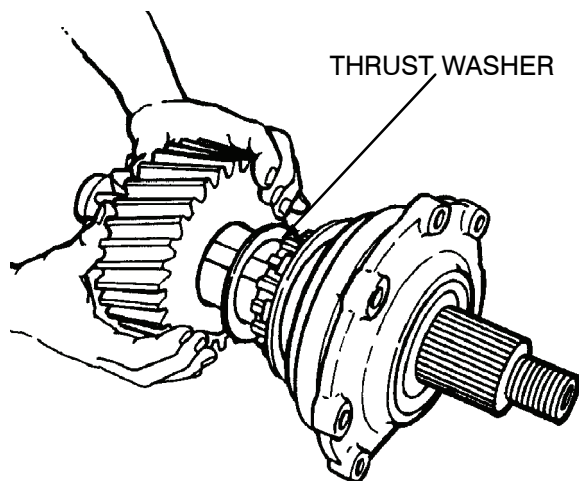

Figure 22. Drive Gear Removal.
- (4) Remove the helical drive gear from the input shaft. Remove the thrust washer from the gear. Figure 22.